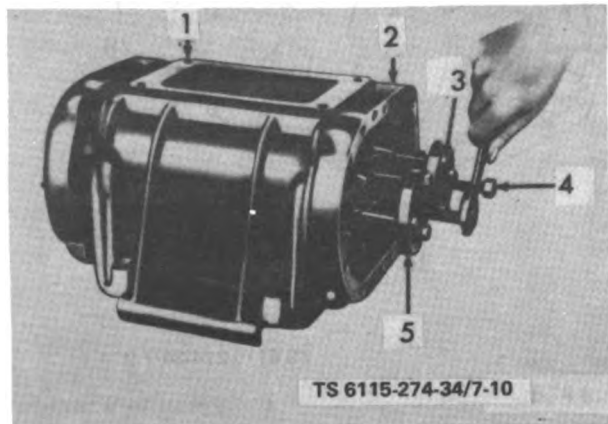

Figure 7-10. Rotor Shafts, Rear Bearings and Front Plate, Removal and Installation
(5) Remove the three screws (21) and lockwashers (22) and remove the rear bearing retainer (8) from the housing end plate (11). Remove the other rear bearing retainer in a similar manner.
(6) Remove the two front bearing retainers in the manner described in (5) above.
(7) Remove the two screws (27) from the housing end plate cover (14).
(8) Release the housing plate (26) from the blower housing (23) by loosening the screws approximately three turns. Install the three puller plate anchor bolts (3, fig. 7-10), in the three equally spaced holes of each puller plate (5).